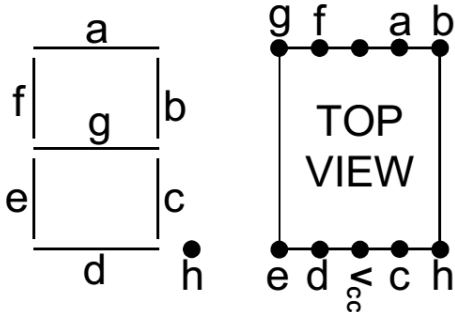

Figure 8.2 Pin connections of the 7-segment display
1. **Construct** the BCD counter on the protoboard. You will use one 74LS190, one 74LS47, and one 7-segment display. **Apply** a CLK signal of 1Hz from the function generator and observe the output. The CE' input of 74LS190 must be low and the outputs Q₀, Q₁, Q₂, Q₃ must be connected to the A, B, C, D inputs of 74LS47 respectively. Figure 8.2 shows the pin connections of the seven segment display.